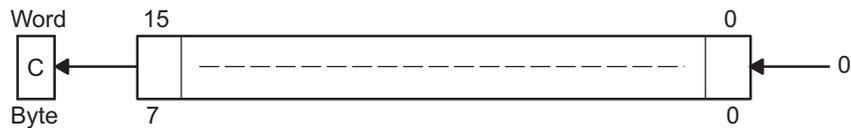

Figure 3-15. Destination Operand – Arithmetic Shift Left
Description	<p>The destination operand is shifted left one position as shown in Figure 3-15. The MSB is shifted into the carry bit (C) and the LSB is filled with 0. The RLA instruction acts as a signed multiplication by 2.</p> <p>An overflow occurs if dst ≥ 04000h and dst < 0C000h before operation is performed: the result has changed sign.</p>